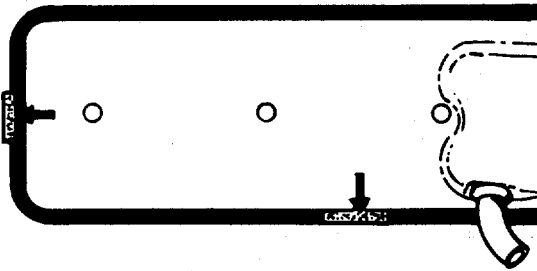

FIGURE 3-46. Rubber Tappet Gasket
- If a rubber tappet cover gasket is used, it must be installed on the cover as shown in the illustration. (FIGURE 3-46)